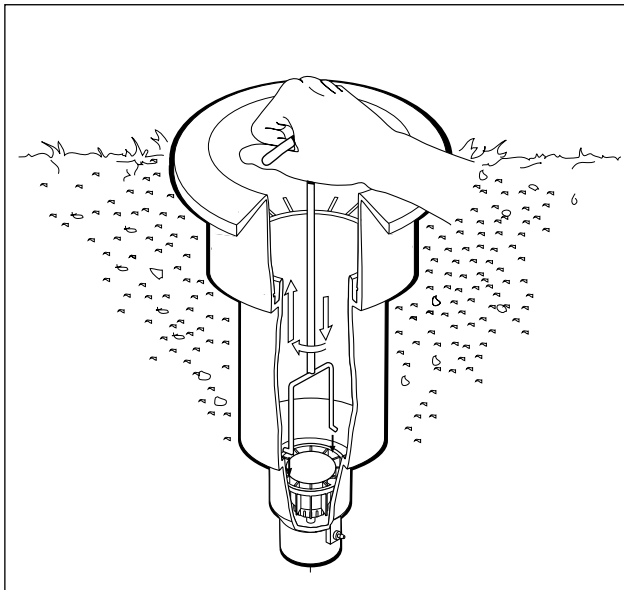

Figure 5
12. Use valve removal tool (P/N 995-08) to remove valve assembly from base of sprinkler body. Valve Removal Tool is inserted into sprinkler body and pushed through valve ribs to the underside of valve. A slight twist will lock tool to valve enabling removal by pulling straight up and out. (See Figure 5.)